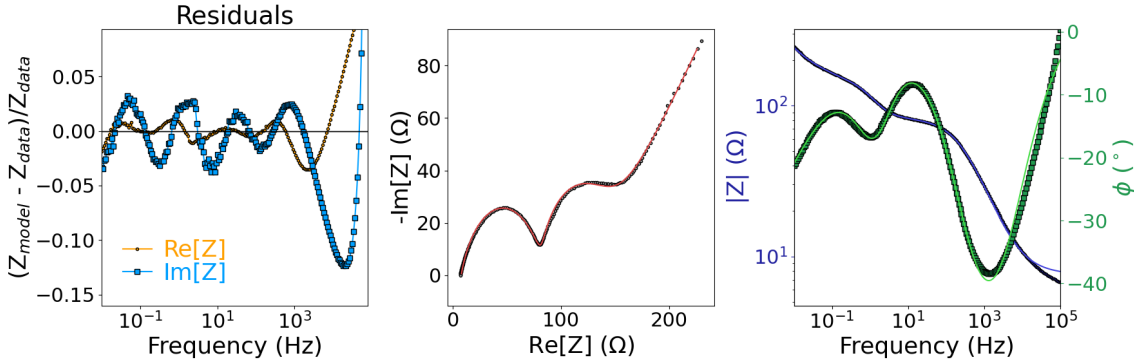

Figure 37: Low-frequency refinement result.
17. Now, the lower frequencies should be treated. Because there are no points where $\text{Re}[Z] = 0$ or $\text{Im}[Z] = 0$ in this region, the weighting scheme can be set to **Observed proportional** (proportional weighting based on measured data). Refining with the upper frequency limit set to 10 Hz, the lower frequency limit set to 0.009 Hz, and R_2 , Q_2 , n_2 , Q_0 , and n_0 selected, results in Figure 37.